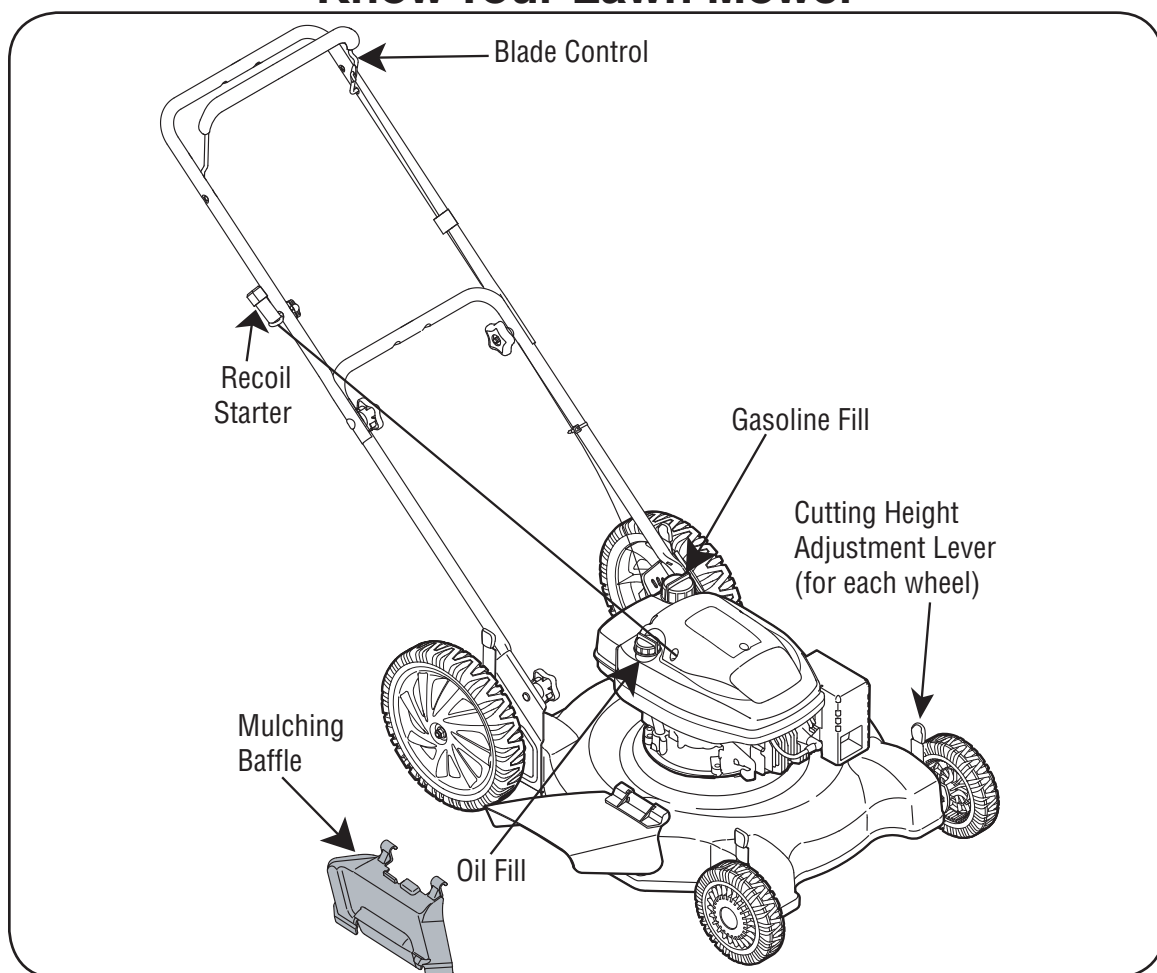

Figure 1
1. Check oil level and add oil if necessary. Follow engine manual for this. See Figure 1 above for location of the oil fill.
2. Service engine with gasoline as instructed in engine manual. See Figure 1 above for location of gas cap.